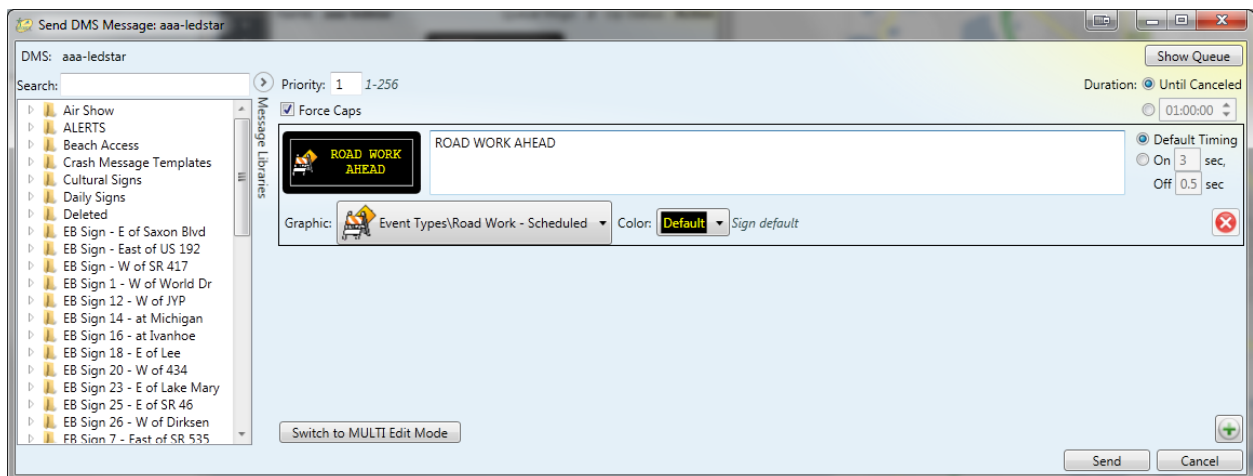

Figure 3-87 –DMS Send Message dialog
- **Modify Message:** Shows the Send Message dialog in Figure 3-87.